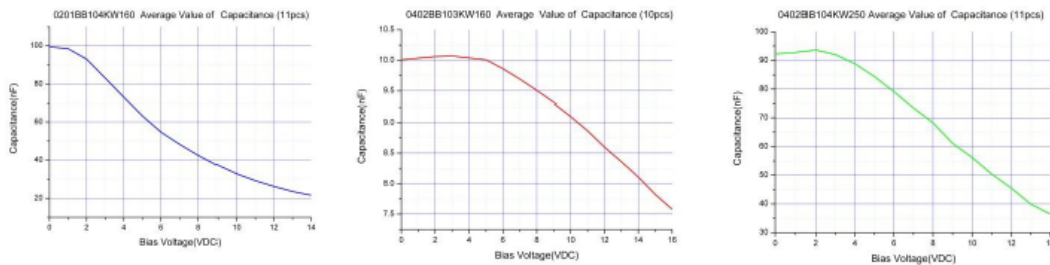

Fig. 15 Capacitance change with DC voltage for three PPI broadband MLCCs
- **The voltage coefficient of capacitance, VCC**, is the change of capacitance – usually a decrease -- with applied voltage. In general, VCC depends on the electric field (volts/mil) across the dielectric, and the higher the dielectric constant, the greater the VCC. Any decrease in capacitance is likely to impact the low-frequency range of performance. **Fig. 15** shows the capacitance change with DC voltage for three PPI broadband MLCCs.